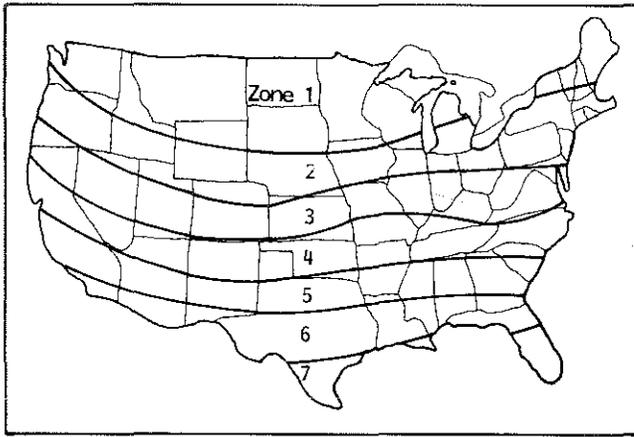

Fig 74. Climatic zones for anaerobic lagoons.
Lagoons treat as well as store manure before land application. Use two-stage lagoons for recycled flush water to improve flush water quality and decrease levels of pathogenic organisms. Dilution water improves treatment and odor control—add as much dilution water as manure. Empty at least 1/3 of lagoon volume once or twice a year. Properly designed and managed lagoons have a useful life of 8 to 12 years before filling with solids. See Fig 74 and Tables 20-22 for design information.
1. From Fig 74, central Iowa is in Zone 2.
Operation type	Climatic zone (Fig 74)